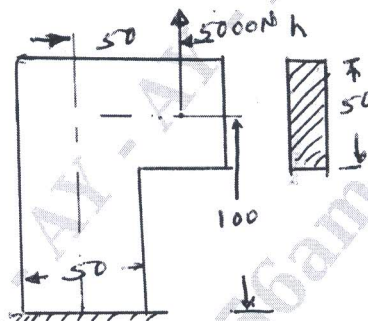

Fig.Q1(b)
- b. Determine the required thickness of the steel bracket at section A-A, when loaded as shown in Fig.Q1(b) in order to limit the tensile stress to 100 N/mm^2 . All dimensions are in mm.